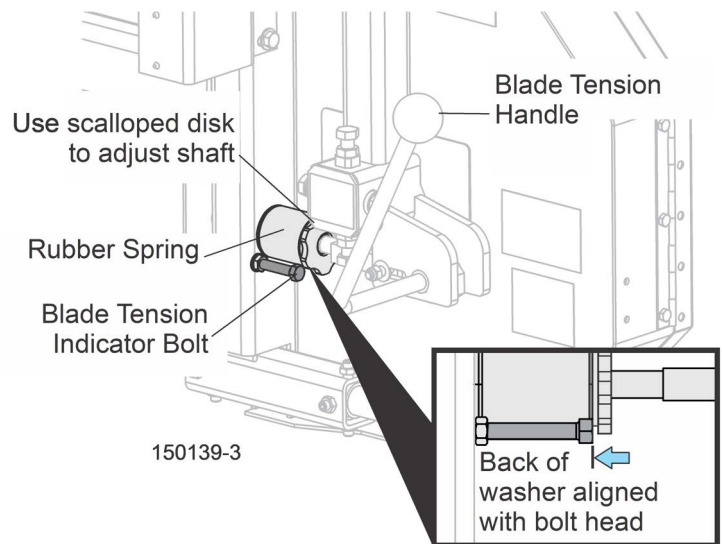

FIG. 4-5
1. Use the scalloped disk to turn the tensioner shaft. See FIG. 4-5.